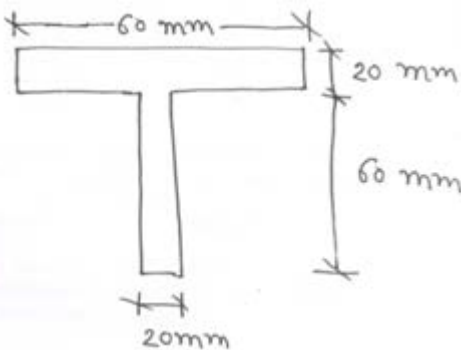

Figure 3 Que 5 (a)
- Q 5 (a) A simply supported beam of 4 m span carries a point load of W at 1 m from one support. Find the value of this load so that maximum bending stress in tension and compression are limited to 100 MPa and 80 MPa respectively. The cross section of the beam is a Tee section as shown in figure 3 with top flange in compression. 07